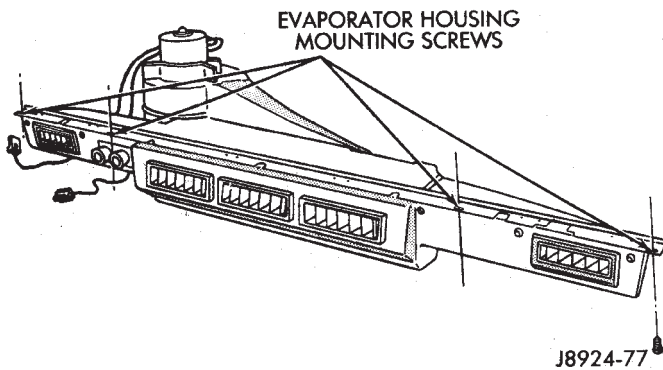

Fig. 15 A/C Evaporator Housing—YJ Vehicles
- remove the A/C evaporator housing-to-instrument panel screws (Fig. 15);
- raise and support the A/C evaporator housing (Fig. 15); and